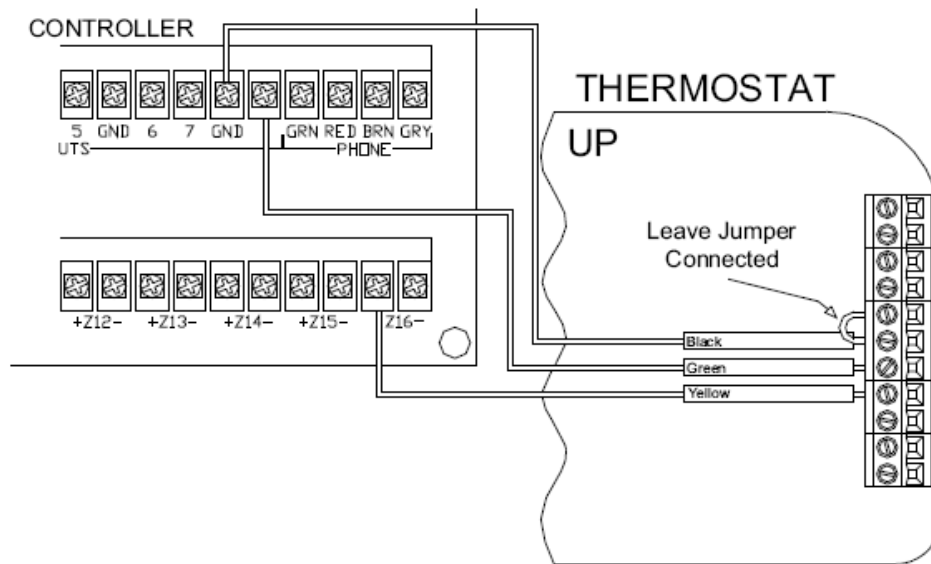

Figure 11 – *Connections to HAI Home Control System*
Run a 3 (or 4) conductor wire from the HAI system to the thermostat location. All thermostats on an HAI Home Control system are connected to Ground, Zone +16, and Output 8 - See *Figure 11*.
2. When connecting to an HAI Home Control System, the metal jumper between terminal labeled "N/C" and the terminal labeled "Black" on the right terminal strip must remain in place – See *Figure 11*.